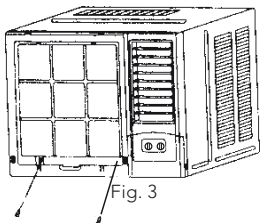

Fig. 3
- 1 Remove the screw from the frame. (see Fig.3)